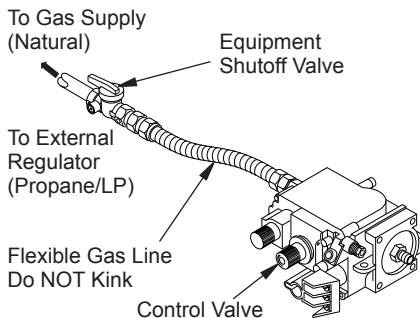

Figure 50 - Connecting Flexible Gas Line to Millivolt Valve
3. Attach flexible gas line from gas supply to control valve (see Figure 50).